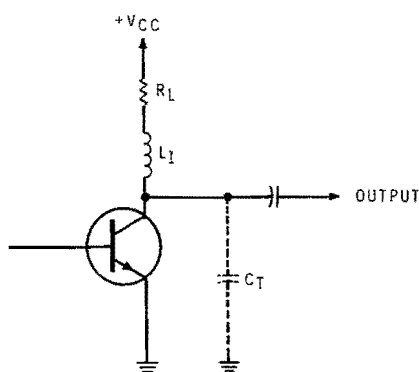

Figure 2-56
36. (peaking) The peaking coil ( $L_1$ ) in the circuit of Figure 2-56 resonates with the circuit's total shunt capacitance  $C_T$  and increases output impedance at high frequencies. This type of peaking is called \_\_\_\_\_ peaking.